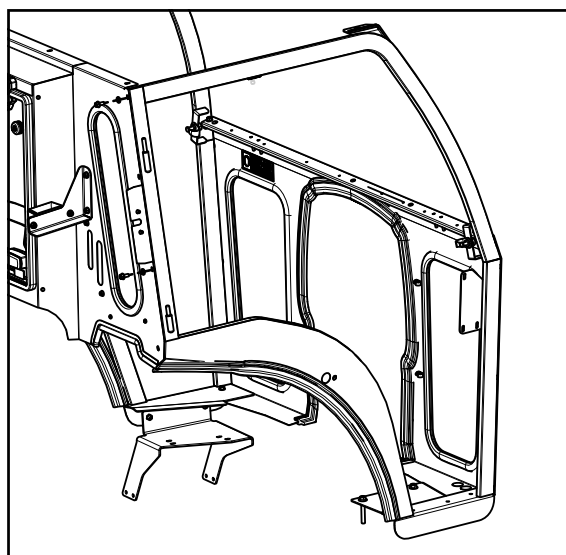

Fig. 7.1 (Right Sideframe Installation)
7.1 As with the left side frame (Step 6.1) check that the factory installed bulb rubber is in place before setting the sideframe in place and starting two bolts with plastic washers in the rear panel. See Fig. 7.1. Leave fasteners finger tight. (Set floorboard on top of cowl flange.)